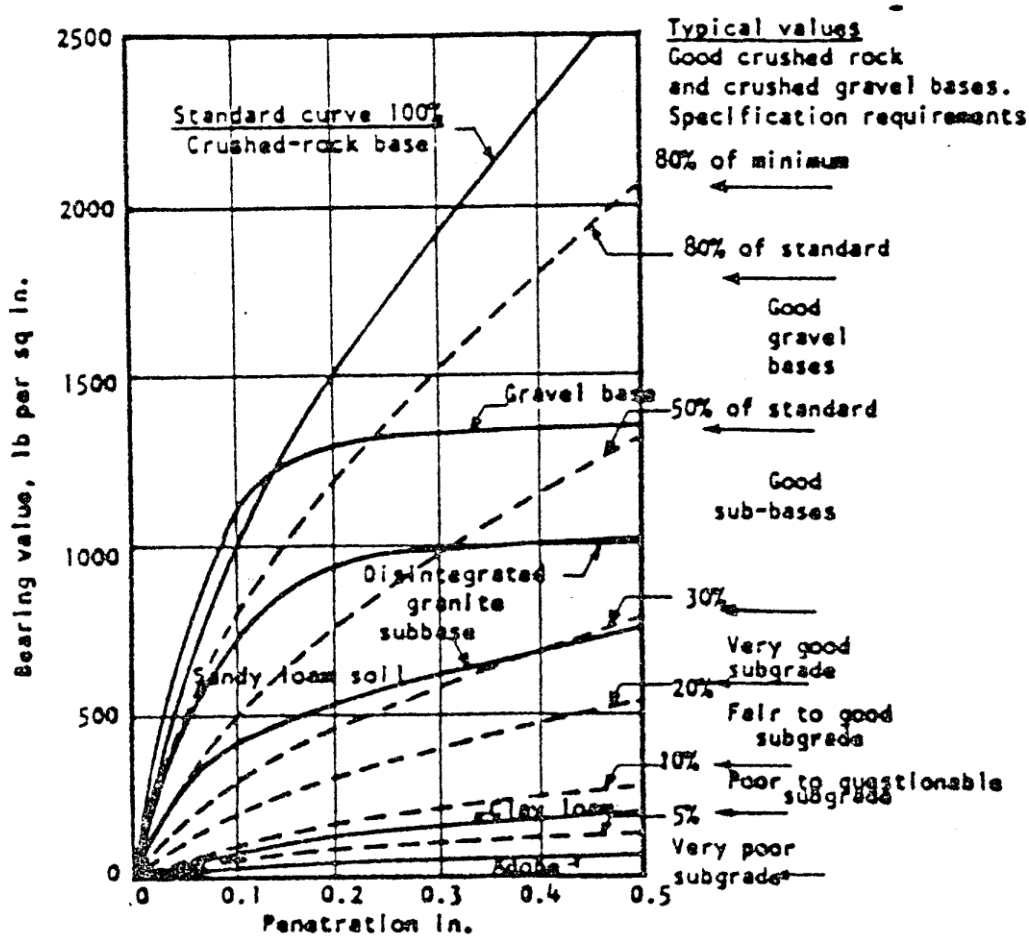

Figure 2-1.7. CBR Testing Procedure and Load-Penetration Curves for Typical Soils.
The below **Figure. 2-1.7** refers to the CBR results showing penetration of the piston in X-axis and bearing value on Y-axis. At y-axis right side of the graph, it shows ranges in percentage from 5% to 100% referring to different degrees of the subgrade (any material) quality in reference to CBR test.
- **5%** below figure 2-1.7 which shows the result of CBR in which penetration is in X-direction and bearing capacity on Y-direction and Y-direction. It shows the percentage resistance statistic from 5% to 100% the graph can be explained in general stages or steps.